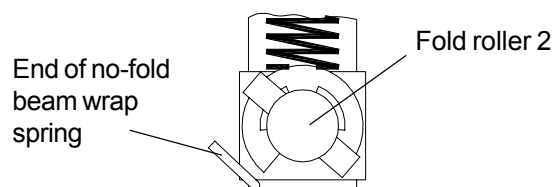

Fig. 15
6. Remove all gears, 'E' clips, drive pins, 'T' bearings/springs and roller bearings from both ends of all four fold rollers. On fold roller 2 RH side, also detach the end of the no-fold spring hooked over the edge of the 'T' bearing cutout. This is located as shown in Fig. 15 below.